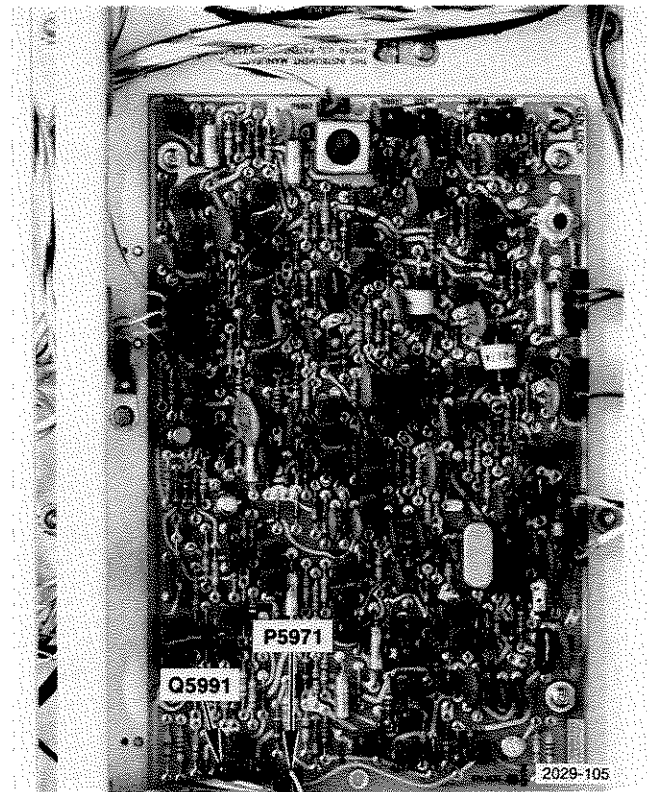

Fig. 3-36. Gen Lock circuit board showing locations of components to free-run chrominance.
Push the 1480 Oper button. Shut off the burst on the incoming video signal source (140). Disconnect plug P5971 and remove Q5991, see Fig. 3-36, so that the chrominance smoothly free runs.